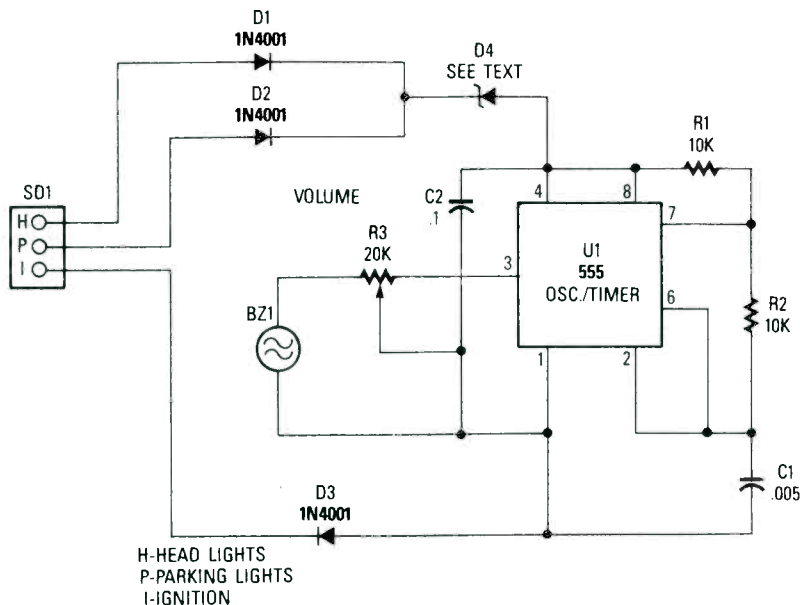

Fig. 1. The automobile Light Warning System is built around the a 555 oscillator/timer, and receives power from the car's battery.
Fig. 1—All dimensions for the speaker board (A) and the faceplate (B) are given in inches. Allow your saw to cut through the remaining thin pieces of board on the faceplate while cutting the hole for the woofer.
**Circuit Operation.** The circuit shown in Fig. 1 is built around the everpopular 555 oscillator/timer. When the ignition and either the headlights or parking lights are on, little or no voltage dif-
a threshold to prevent false alarm operation if there is a small voltage difference in the DC supply circuit during normal operation. To determine the necessity and/or the value of D4, with the headlights and ignition both on, measure the voltage between the head lights and parking lights (points H and P in Fig. 1).
**Circuit Operation.** Figure 1 shows the schematic diagram of the 10-MHz Frequency Counter. The circuit consists of an ICM7208 seven-decade counter (U1), an ICM7207A oscillator controller (U2), and a CA3130 biFET op-amp (U3). Integrated circuit U1 counts input signals, decodes them to 7-segment format, and outputs signals that are used to drive a 7-digit display.